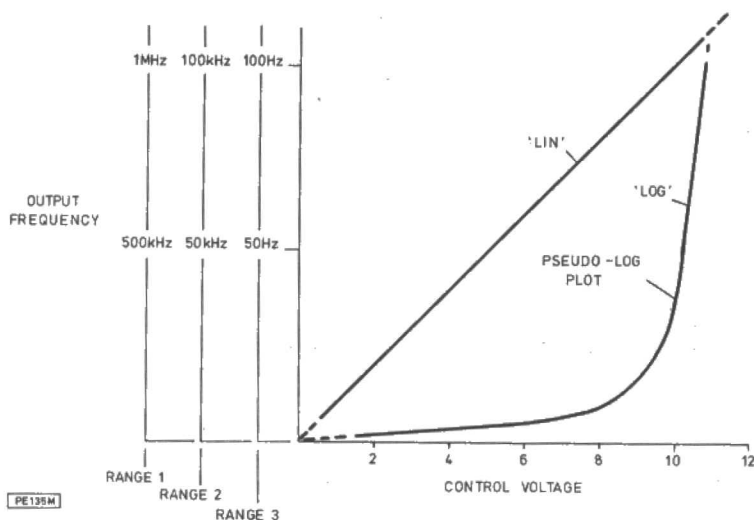

Fig. 6. Typical output frequency for each range, versus "lin" and "log" input control voltages
at which the peak-to-peak voltage falls to 71 per cent of its mid-band (or maximum) level. The X (horizontal) axis of the 'scope which is normally calibrated in "time" can be re-calibrated in "frequency". Fig. 6 shows a practical example of a frequency/voltage plot relating the generator output frequency to the "Lin 2" pin voltage.
Then, with the 'scope triggered from the module's sync. output and displaying across the screen one full sawtooth waveform from the "LIN 2" pin (not from the sawtooth output pin), the 'scope X axis (horizontal) can be calibrated or marked in voltage, by reading off the trace against the normal vertical (Y) voltage axis. (Note: on some 'scopes it will be possible to set the X-axis scale most conveniently to one volt/centimetre). This calibration can then be converted to "instantaneous output frequency" by reference to the frequency/voltage relationship recorded above, which, being similar to Fig. 6 will give a calibration close to
Also since the control-voltage/output-frequency relationship is linear (as shown by Fig. 6), then a logarithmic frequency sweep along the X-axis can be achieved by applying a logarithmic voltage sweep to the "Lin 1" pin.